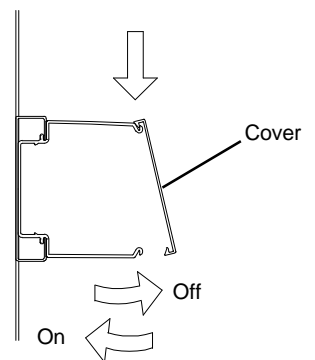

Figure 3
2. To remove the **Cover(s)** from the Horizontal Cable Management component(s), grasp the cover with both hands and push down and rotate the bottom of the Cover outward. See **Figure 3**.
4. To re-install the Cover(s), hook the top edge over the top flanges of the Horizontal Cable Management. Push down with both hands and rotate the Cover inward to engage the bottom flanges of the Cable Management. See **Figure 3**.